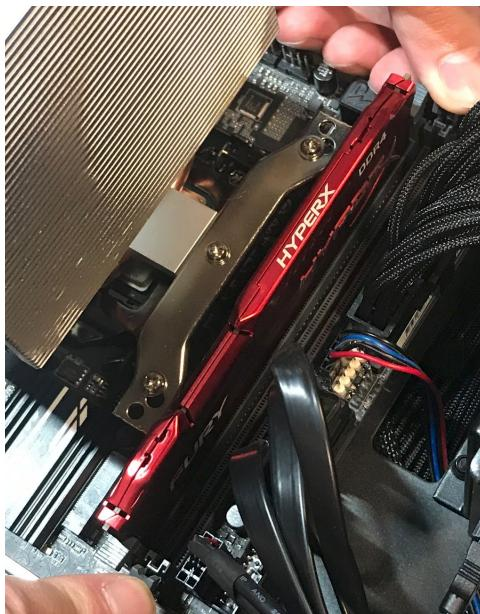

Fig. 21: Accessing the RAM release clips (left). Placement of the RAM notch on the motherboard (middle) and on the RAM stick (right).
3. Press simultaneously on each clip on either side of the RAM stick (fig 21 above). These clips will release the RAM stick and lever it out of its slot on the board.